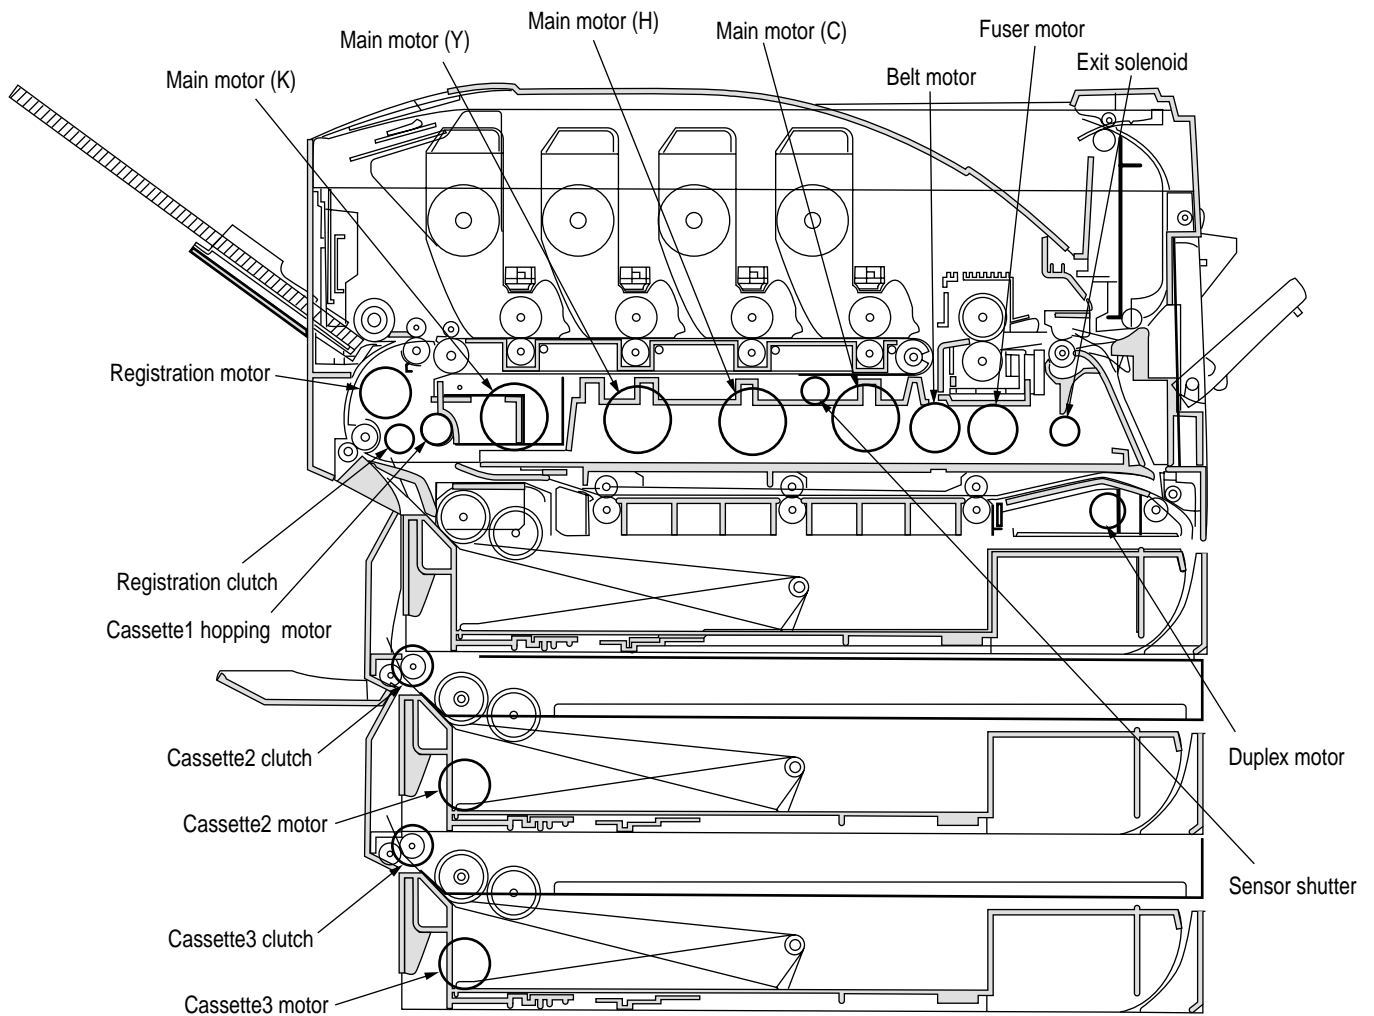

Figure 4-3
3. Pressing the ③ key starts the test, the unit name blinks, then the corresponding unit is driven for 10 seconds (refer to Figure 4-3).